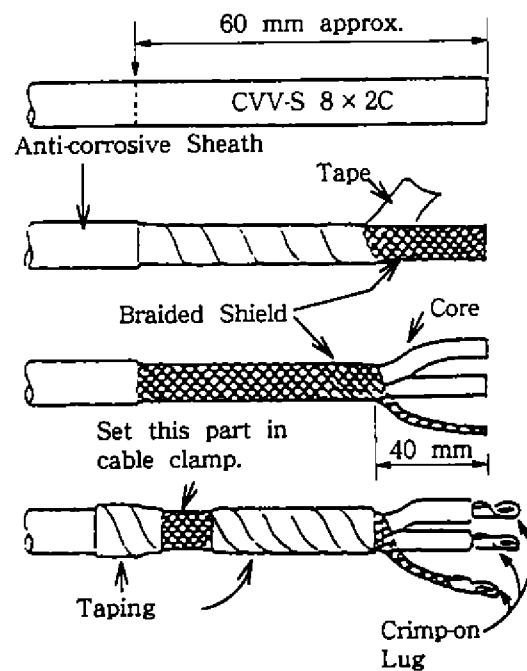

Figure 2-13 Fabricating power cable
- 2) Fabricate the end of the cable as shown in Figure 2-13.